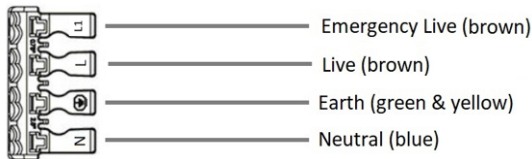

Fig. 2
- Connect to the mains supply ensuring the correct polarity is observed: L – Live, L1 – Emergency Live (brown), E – Earth (green/yellow), N – Neutral (blue) (see Fig. 2). Two cables can be inserted into the push-fit terminal block in order to achieve loop-in/loop-out wiring